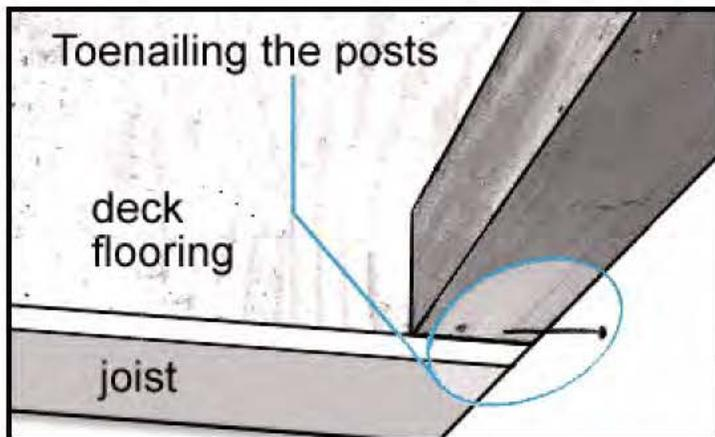
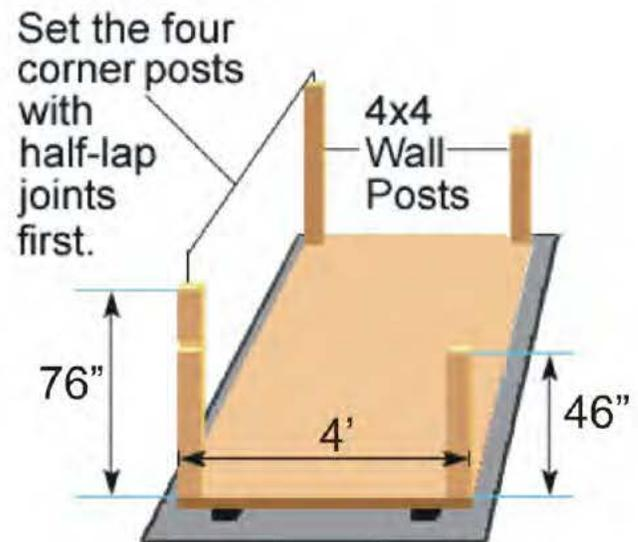

Figure 2
Figure 3
**Step 2.** Toenail (nailing in by angle) in the four 4x4 corner posts first. Align them flush into the corners. Blind nail posts (where they won't be visible) into the deck where possible. Figure 2. The 76" front posts should be placed with half lap notch to outside. 46" posts placed at rear corners. Figure 3. Use three 16d framing nails for each outer side of the post where the siding will cover the nails. If necessary, use additional nails on the interior sides of the posts.